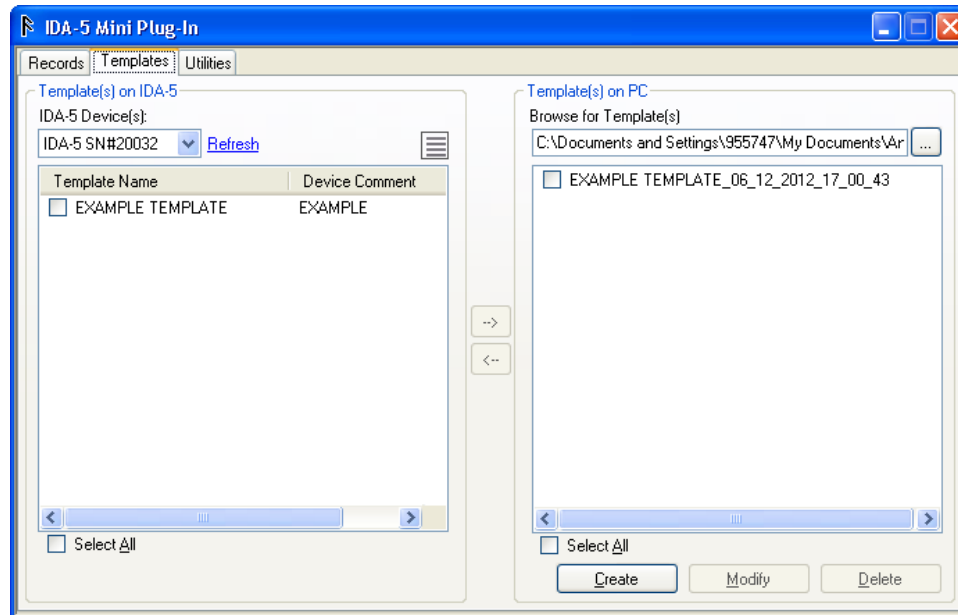

Figure 6-6. Template Window
You can copy templates between the Analyzer and the PC with the Mini Plug-In. To copy a template, click the **Templates** tab to open the window shown in Figure 6-6. The templates on the IDA-5 are shown in the left panel and all templates on the PC are shown in the right panel
1. In the IDA-5 Mini Plug-In window, click the **Templates** tab. As shown in Figure 6-6.